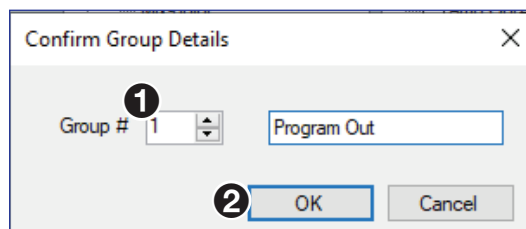

Figure 72. Confirm Group Details Dialog Box
7. Confirm the group number and name from the **Confirm Group Details** dialog box (see figure 72, **1**).